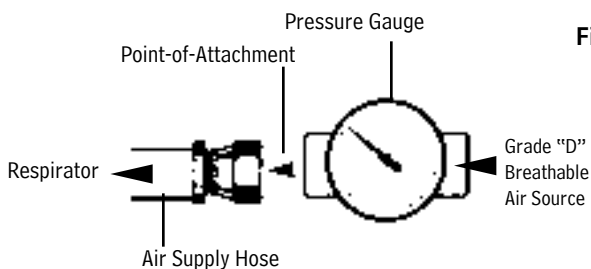

Figure 8
3. Adjust air pressure at point-of-attachment to within the approved pressure range (see Figure 8). See the Breathing Air Pressure Table (page 5) for approved pressure ranges.